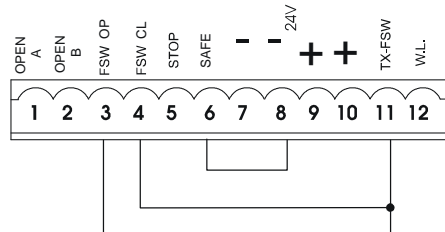

Fig. 26
**N.B. If safety devices are not used, jumper connect the terminals as shown in fig. 26.**
**NB.:** If no opening safety devices are connected, jumper connect inputs **FSW OP** and **-TX FSW** (fig. 26).
**NB.:** If no closing safety devices are connected, jumper connect terminals **FSW CL** and **-TX FSW** (fig. 26).
**NB.:** If edge safety devices are not connected, jumper connect the **SAFE** and **- inputs** (fig. 26).